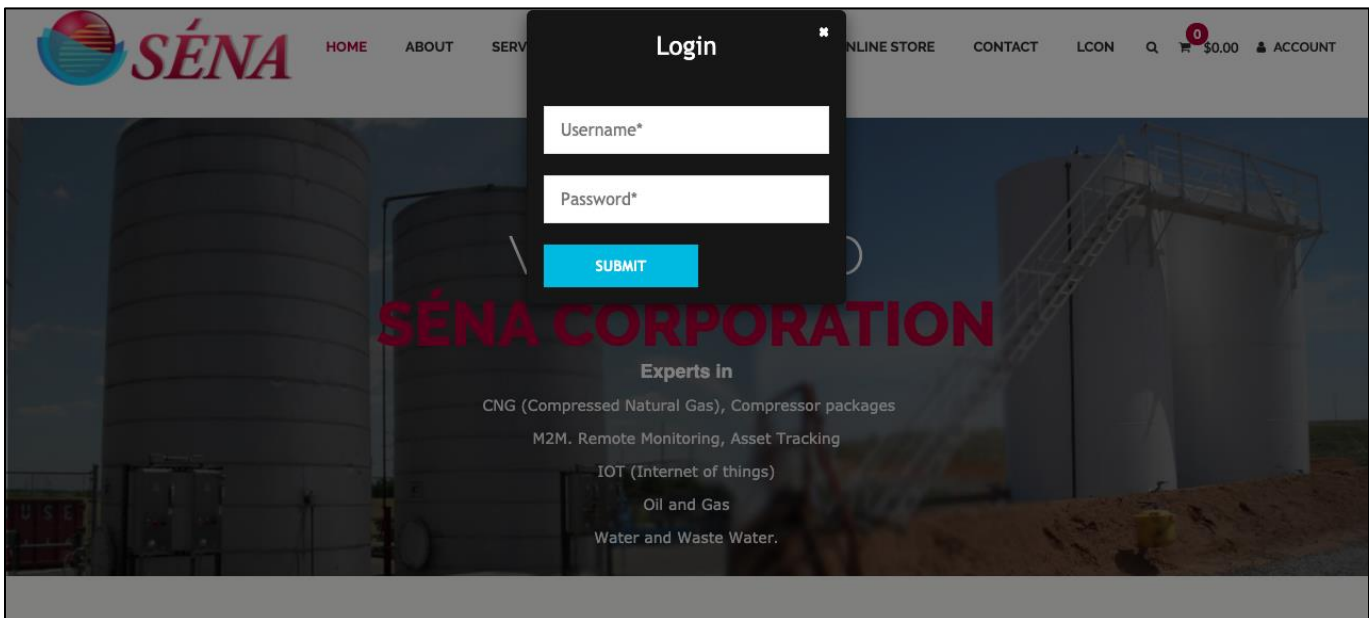

Figure 6
- 5) Click on “Submit” figure 6